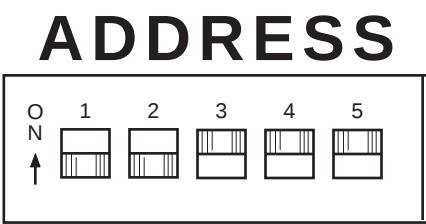

Figure 2.8
5. Select an address from 1 to 9. Then use the binary address switches on the TGA connector panel to set the desired address (See Table 2.1). Figure 2.8 on the next page shows a instrument address of 7.